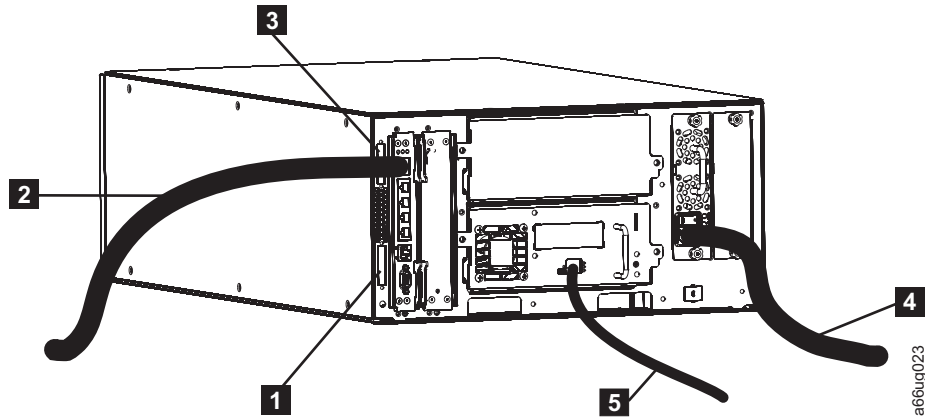

Figure 3-39. Cabling of a 5U library with Fibre Channel drives
1. Install the upper module communication terminator (**3** in Figure 3-39).
2. Install the lower module communication terminator (**1** in Figure 3-39).
3. Connect one end of the customer-supplied ethernet cable (**2** in Figure 3-39) in the Library Control Blade (LCB) ethernet port, then connect the other end of the cable to your network.
4. Connect one end of the drive-to-host cable (**5** in Figure 3-39) to the library, then connect the other end of the cable to your network. Repeat this procedure for every drive in your library.
5. Connect one end of the power cord (**4** in Figure 3-39) in the receptacle in a power supply in your library, then connect the other end of the cord to your power source. Repeat this procedure for every power supply in your library.